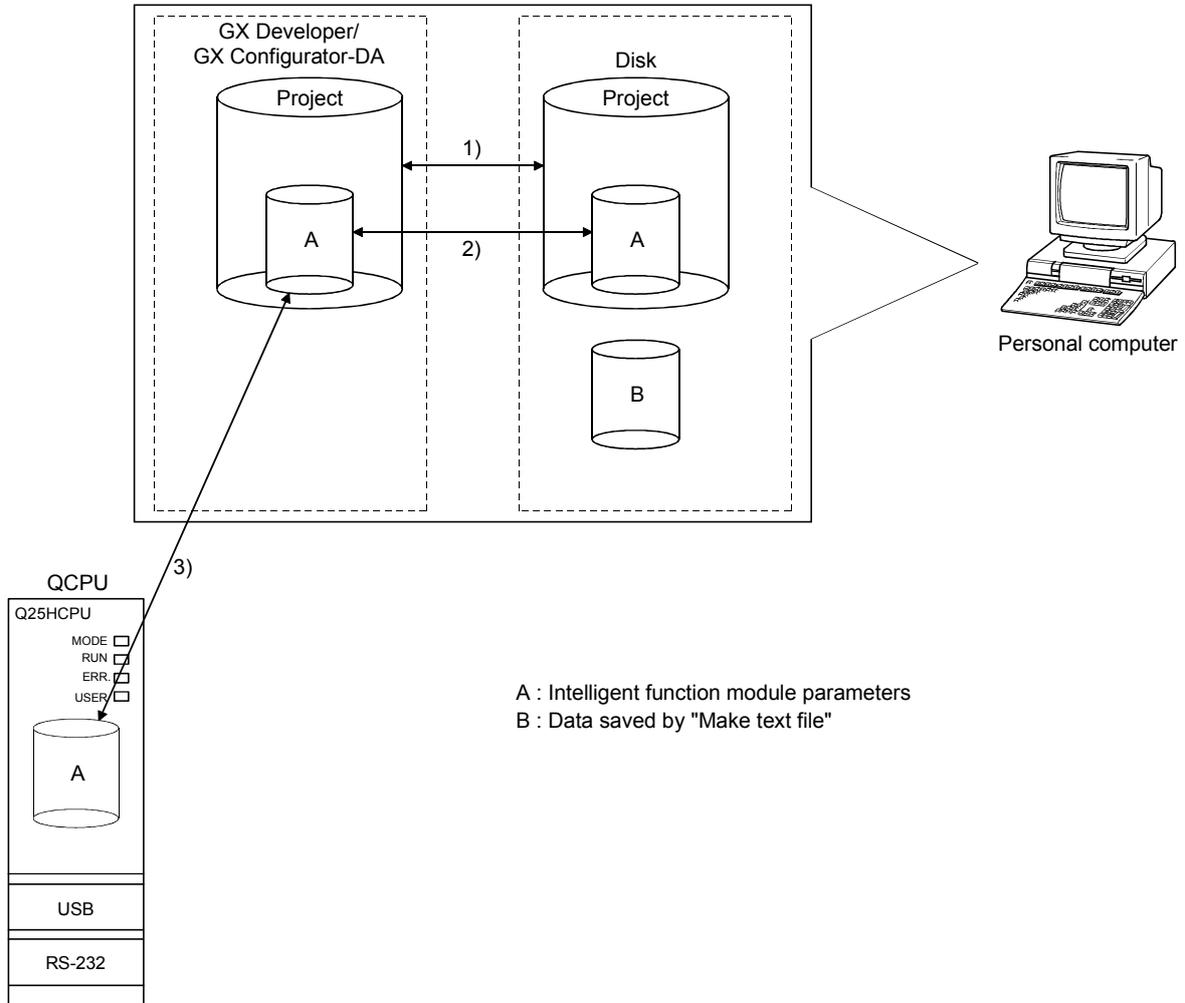

Figure 5.1 Correlation chart for data created with the utility package
The following data or files that are created with the utility package can be also handled in GX Developer. Figure 5.1 shows respective data or files are handled in which operation.
- (b) Steps 1) to 3) shown in Figure 5.1 are performed as follows: